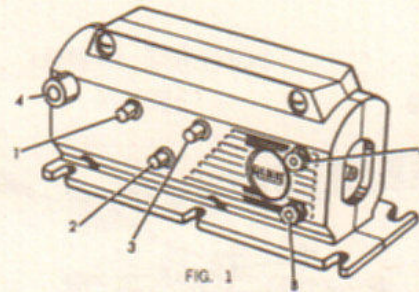

FIG. 1
The motor in your set is packed in kit form. Figure 1 shows the motor completely assembled. Figure 4 shows how to assemble it. This powerful motor operates on 3 volts D.C. only. This means two "D" size flashlight batteries. When batteries are used they should be placed in the battery holders in opposite directions — the center terminal of one should be toward the clip of one battery holder and the bottom of the other toward the clip of the other battery holder.
7. Connect one end of the lead wires to the clips on the N.J. Battery Holders, or on the Battery Case, whichever is standard in your set. Next connect the other ends of the wires to the terminals A and B of the motors, see Fig. 1. If the motor seems to bind, loosen the four screws (Fig. 4), slightly to free the bind.